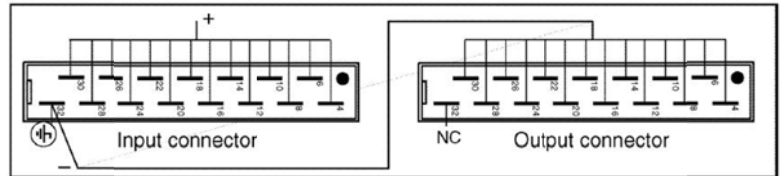

Figure 10. Input to output and input to case isolation voltage test.
The alarm has dry contact output with selectable NO, NC function. The relay output is insulated from both input and output 2.5 kVa.c., see Figure 10.
2. Connect the output terminals of the converter to case. See *Figure 10*.
4. Connect your isolation tester between input and case. See *Figure 10*.
4. Connect your isolation tester between input and case. See *Figure 10* Raise the voltage of the isolation tester from 0 to 2500 Va.c. The voltage should not be applied for more than one (1) minute or the Y capacitors might be damaged.